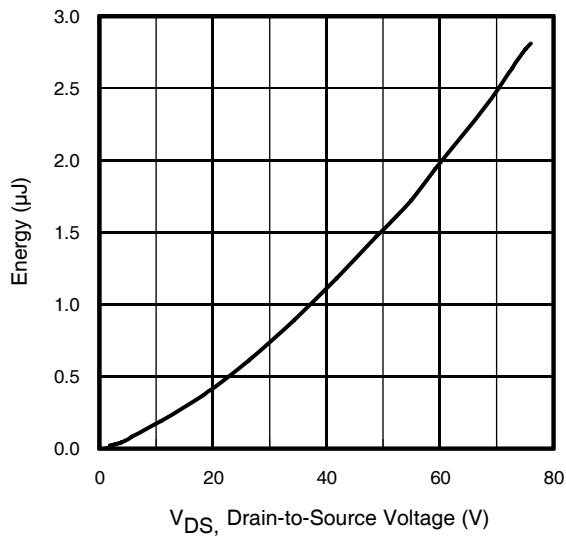

Fig 11. Typical  $C_{OSS}$  Stored Energy
| $C_{oss \text{ eff. (ER)}}$ | Effective Output Capacitance (Energy Related)② | —    | 1090 | —    |       | $V_{GS} = 0V, V_{DS} = 0V \text{ to } 60V$ ③, See Fig.11 |